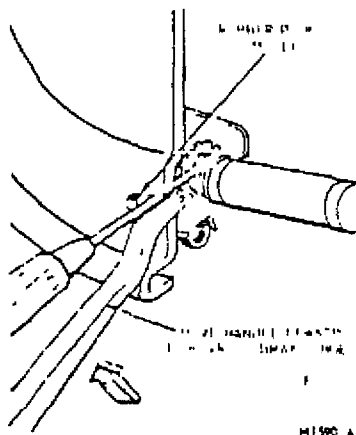

FIG 11 Backing Off Brake Adjustment—F 100-250, E 100-150, with Rear Drum Brakes
Loosen the adjusting screw until a slight drag is noted (Fig 11).
- 3 Pull the brake drum approximately two inches forward, then push it back into position. Remove the wheel bearing and pull off the brake drum. If the brake drum will not come off, insert a narrow screwdriver through the brake adjusting hole in the carrier plate and disengage the adjusting lever from the adjusting screw. While holding the adjusting lever from the adjusting screw, loosen the adjusting screw with the brake adjusting tool (Fig 11). Loosen the adjusting screw only if the drum cannot be removed. Do not burr, chip, or damage the notches in the adjusting screw or the self adjusting mechanism will not function properly. If the adjusting screw was loosened, check to be sure the adjusting lever is still properly seated in the shoe web.
backing plate and disengage the adjusting lever from the adjusting screw. While holding the adjusting lever away from the adjusting screw, loosen the adjusting screw with the brake adjusting tool (Fig 11). Loosen the adjusting screw only if the drum cannot be removed. Do not burr, chip, or damage the notches in the adjusting screw or the self adjusting mechanism will not function properly.